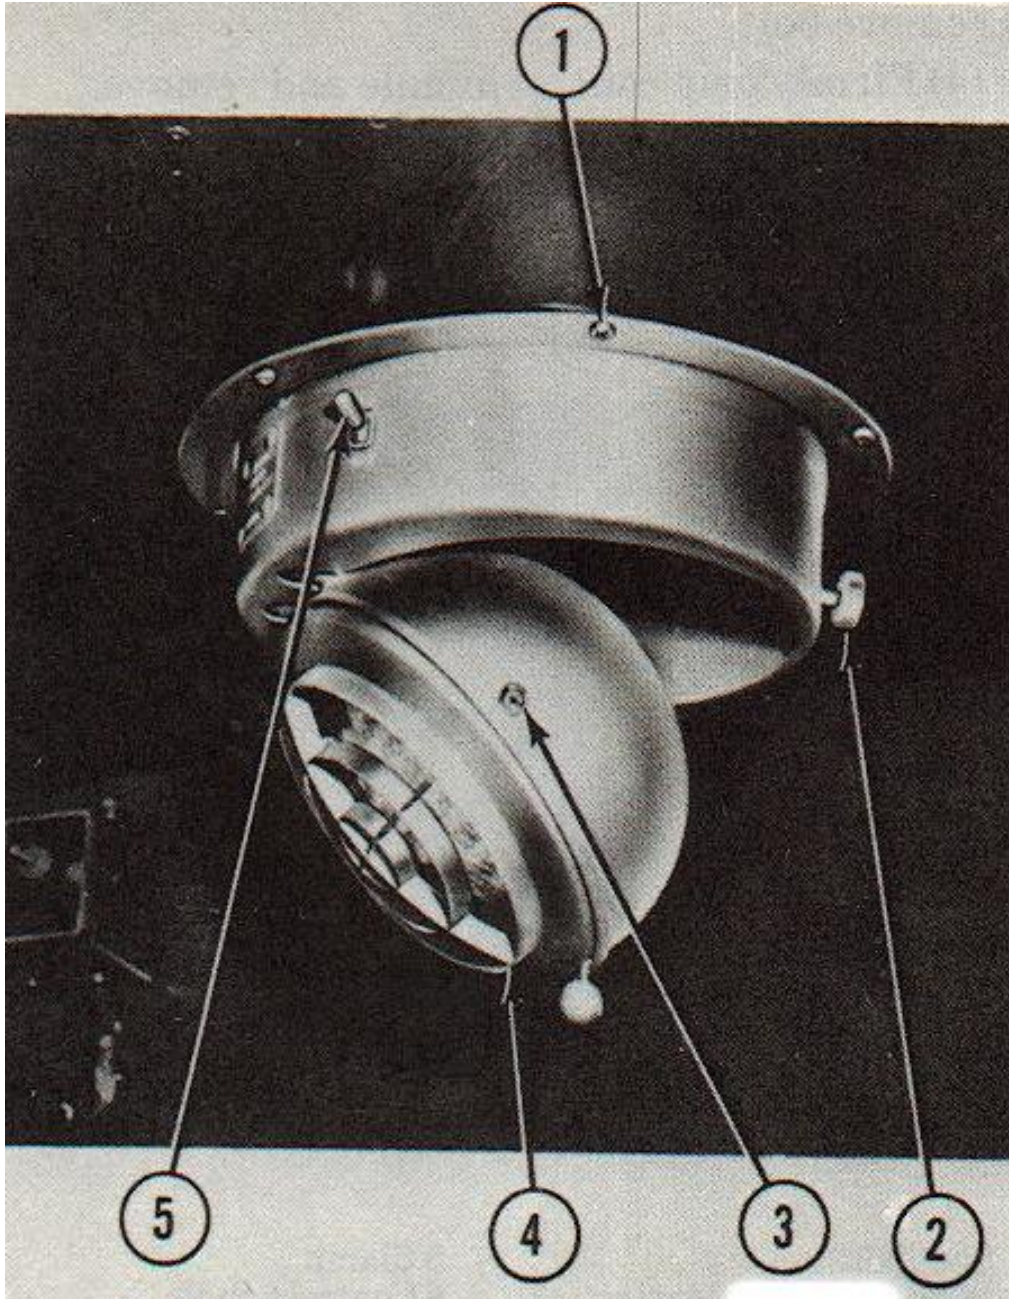

Figure 2-48. Surgical Light
q. Surgical Light Lamp Unit. (Fig 2-48)
- (1) Loosen setscrew and swing light down on ball hinge.
- (2) Remove two screws on opposite sides of lamp housing and pull grille, lens and sealed beam lamp unit from housing.
- (3) Disconnect wiring harness connectors from sealed beam terminals,
- (4) Pry back the three retainers which secure sealed beam unit to grille and remove sealed beam unit.
r. Surgical Light Housing. (Fig 2-48)
- (1) Remove six screws which secure housing to ceiling of patient compartment.
- (2) Drop light down and disconnect wiring harness connector.
- (3) Remove surgical light housing.